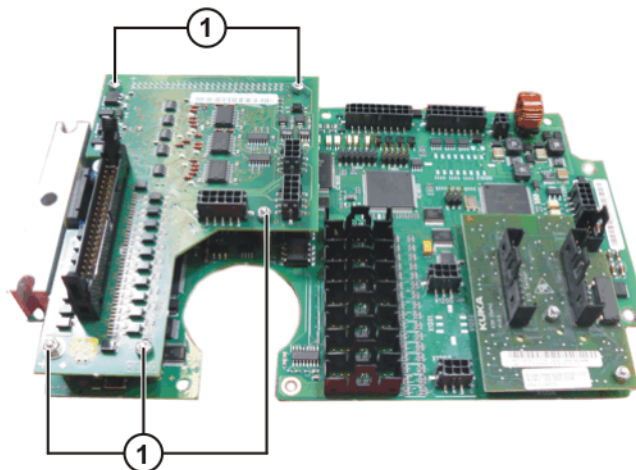

Fig. 11-16: Exchanging the I/O Print board
2. Remove hexagon nuts on the I/O Print board. (>>> Fig. 11-16 )